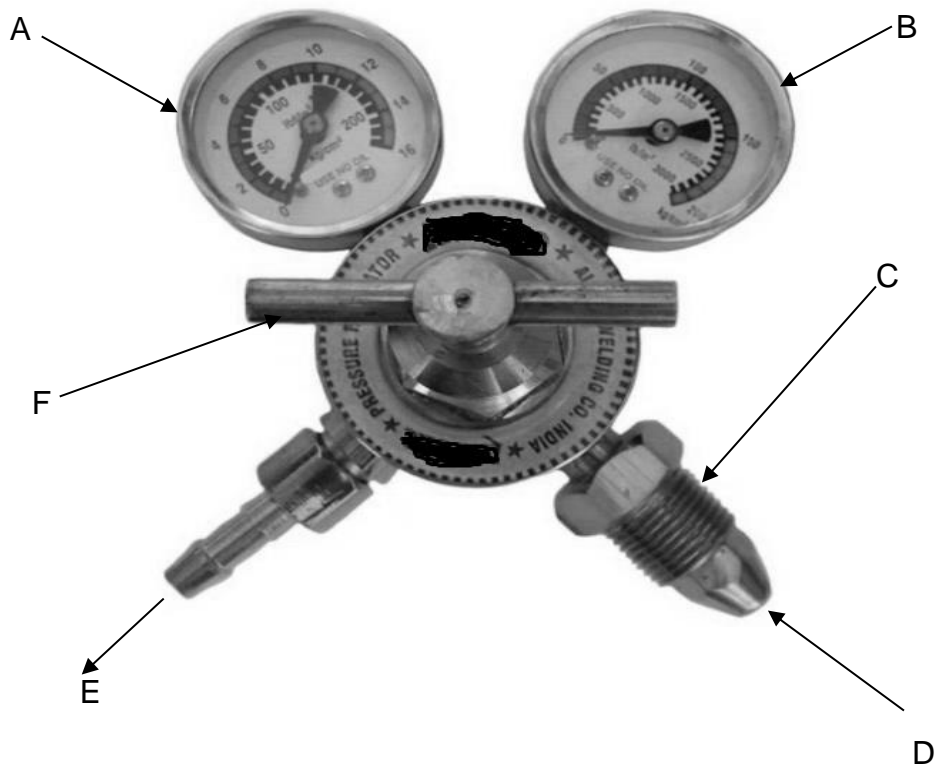

FIGURE 2
- 6.3 The sketch in FIGURE 2 below shows an oxygen pressure regulator. Name the parts (A–F) by writing only the name of the part next to the alphabet letter in the ANSWER BOOK.